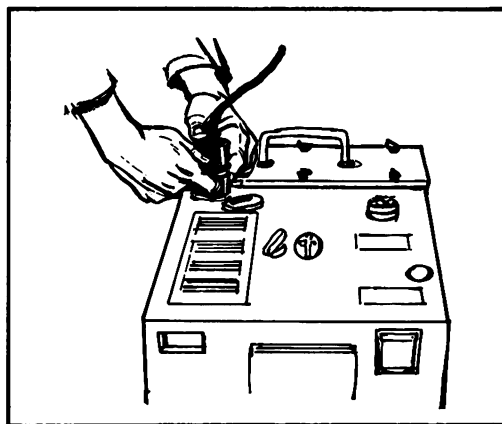

Figure 14. Alinement of indexing lines and locking nut.
b. Pull the coil from under the traversing unit and aline the indexing lines on the coil cord and the J1 connector. Push down to seat the coil cord on the J1 connector and tighten the locking nut (figure 14).